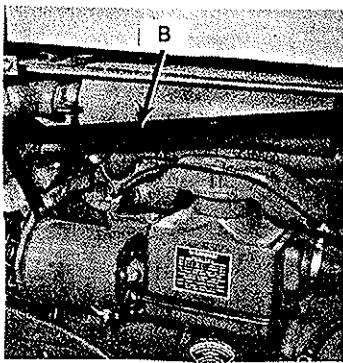

FIGURE 1
1. Attach (B) #712581001 muffler guard . Connect to top of generator with 5/16" x 1" bolt and use clamp nut on opposite end. (Muffler guard installs in approximately the same position on both gas and diesel models. See Fig. 1.